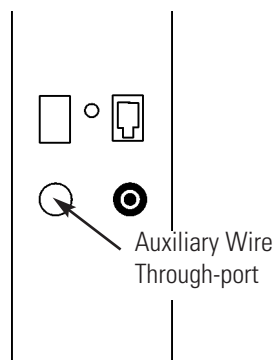

Figure 9-5. Through-port
5. Feed the wires through the auxiliary wire through-port (Figure 9-5) on the back panel. This port is a circular fitting adjacent to the remote alarm and RS485 connectors.